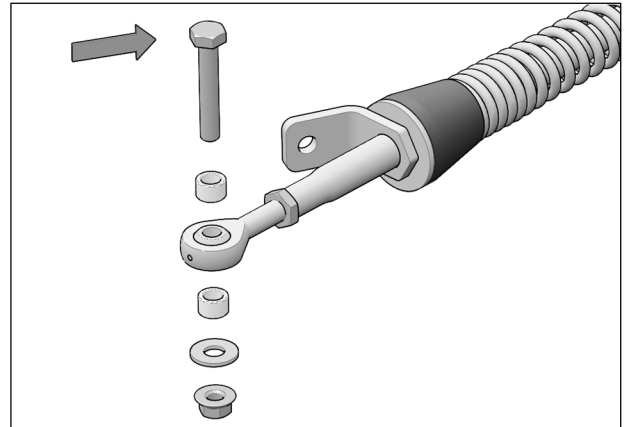

Fig. 15
3. Remove bolts, nuts, washers and bushings from front stabilizing rod ends as shown in Fig. 15